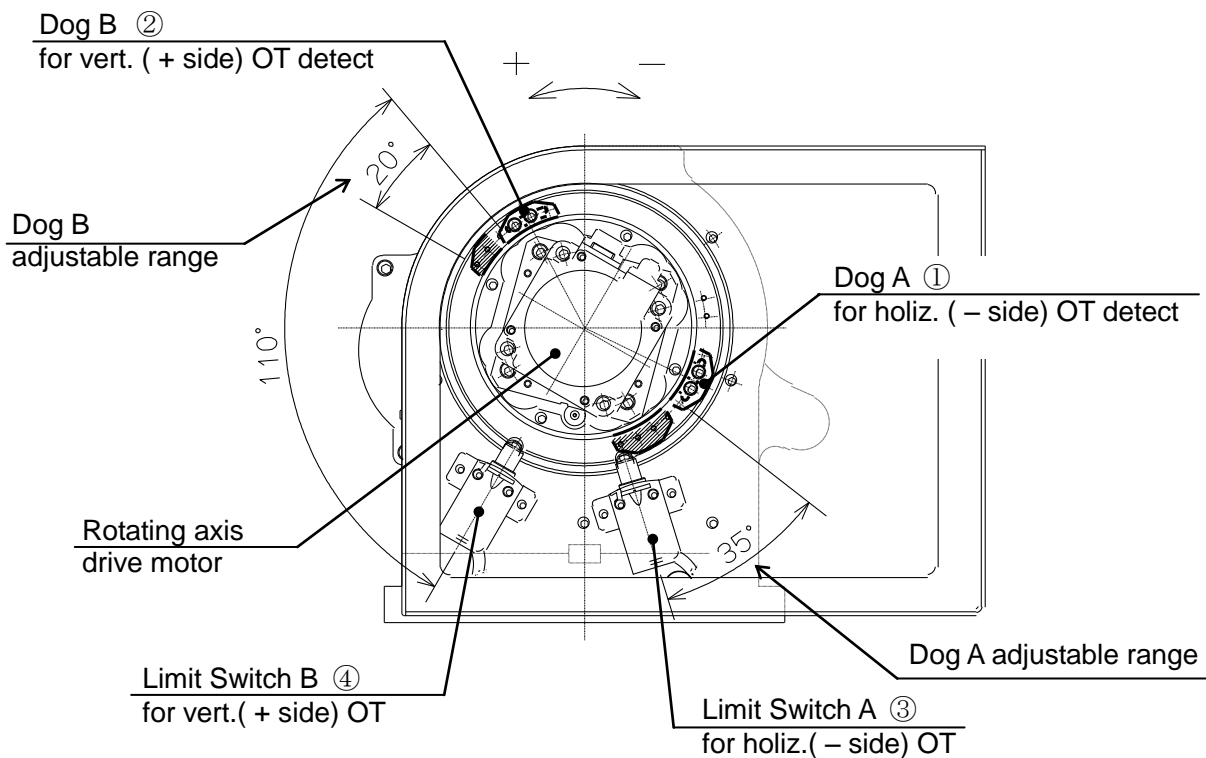

Fig.2
12-1. Tilting axis over travel stop device (See Fig.2)
- 1) When the customer will change position of dog A ① according to the shape of workpiece and jig, loosen hexagon socket head cap screw which fix the dog A ①. Once remove the dog A ①. (See Fig.2.)
- 3) After rotating the rotary table to the desired tilting angle, slightly tighten hexagon socket head cap screws which fix the dog A ①.
- 4) Slide the dog A ① in the reverse direction clockwise (CW) before fixing until the over-travel alarm lamp lights. Tighten hexagon socket head cap screw that loosened slightly.
- 5) After fixing the dog A ①, rotate the tilting axis again with the manual pulse generator or the Manual axis feed key and check that the tilting axis stops at the desired tilting angle position and alarm lamp lights.
- 1) When the customer will change position of dog B ② according to the shape of workpiece and jig, loosen hexagon socket head cap screw which fix the dog B ②. Once remove the dog B ②. (See Fig.2.)
- 3) After rotating the rotary table to the desired tilting angle, slightly tighten hexagon socket head cap screws which fix the dog B ②.
- 4) Slide the dog B ② in the reverse direction counterclockwise (CCW) before fixing until the over-travel alarm lamp lights. Tighten hexagon socket head cap screw that loosened slightly.
- 5) After fixing the dog B ②, rotate the tilting axis again with the manual pulse generator or the Manual axis feed key and check that the tilting axis stops at the desired tilting angle position and alarm lamp lights.